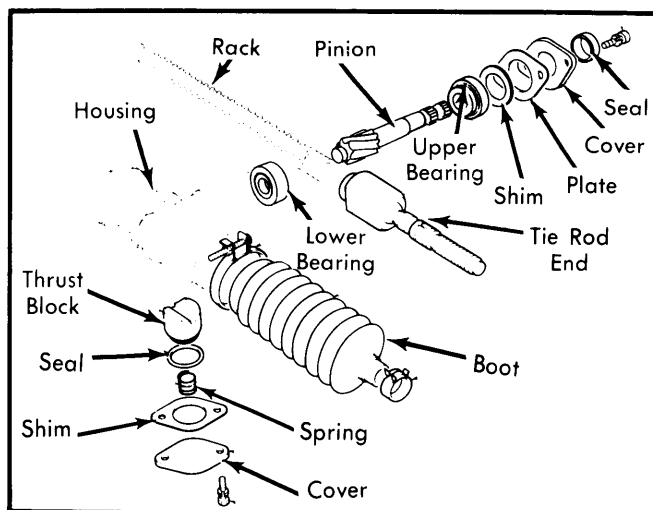

Fig. 1 Exploded View Steering Gear Components
2) Remove cover, shim, spring, seal and thrust block from bottom of housing. Remove cover, seal, plate, shim, upper bearing, and drive pinion from housing. See Fig. 1. Slide rack from housing. Remove lower bearing from housing.